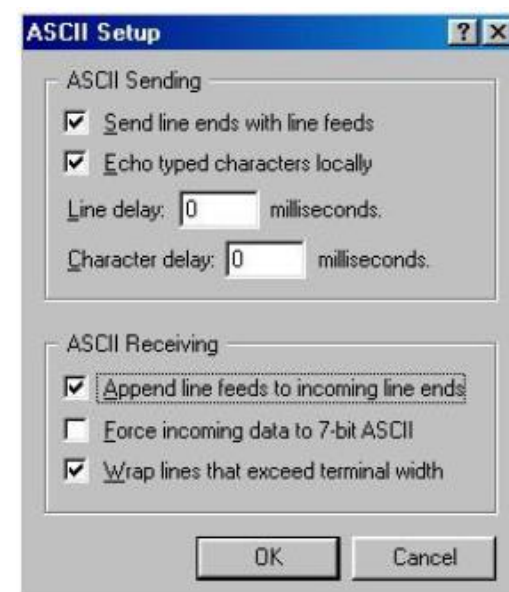

Figure 36
Step 10: Select the fields in the *ASCII Setup* screen (Figure 36) as shown.